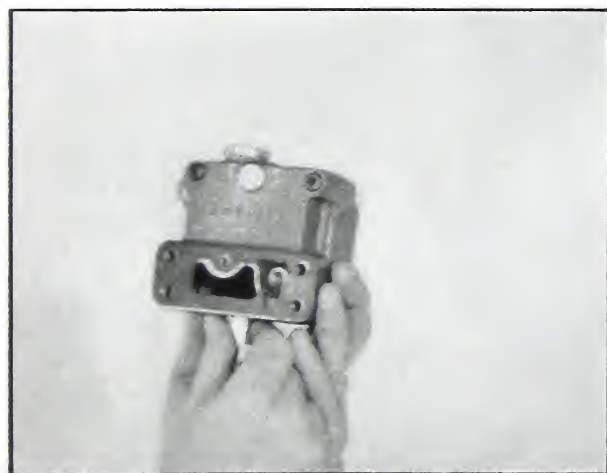

Fig. 5-276. Check float for clearance
14. Check to see that the float does not hit either the top or bottom of the float chamber when assembled. There should be approximately $\frac{1}{8}$ inch clearance at top. **Fig. 5-276.** As shown in **Fig. 5-276**, the top of the float chamber is at the finger tips.